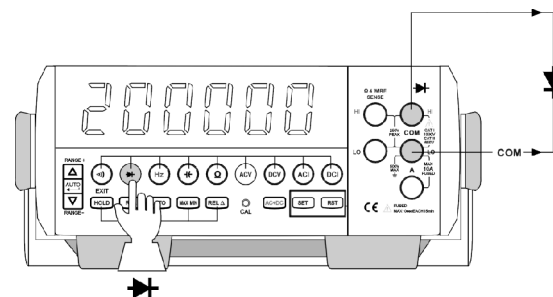

Figure 11
5. Diode Measurement (See Figure 11)